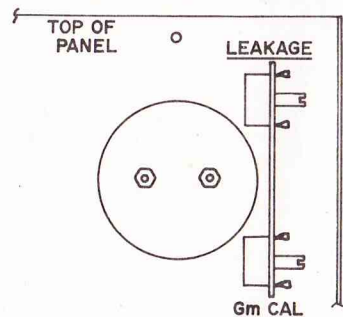

Figure 11. Location of leakage and Gm cal controls in the TF17.
Calibration of the TF17 is extremely simple and easy. There are only two calibration controls inside of the TF17, the leakage calibration and the Gm signal calibration. Both are on a bracket mounted on the meter and are accessible when the TF17 is removed from its case. The LEAKAGE control is the top most pot and the Gm CAL is next to the NPN-PNP switch and both are shown in figure 11.
4. The TF17 meter should now read 1 milliamp. If it does not, adjust the LEAKAGE CAL control until the TF17 meter reads 1 milliamp. See figure 11 for location of control.
2. Set the function switch to the GATE 1 section on Gm X1 and depress the GAIN button. The signal should be a square wave and be 0.34 volts peak to peak. If the signal is not 0.34 volts peak to peak, adjust the Gm CAL control until the signal output is 0.34 volts peak to peak. The Gm X10 range signal is taken from the X1 range through a precision resistor and needs no adjustment. See figure 11 for location of control.